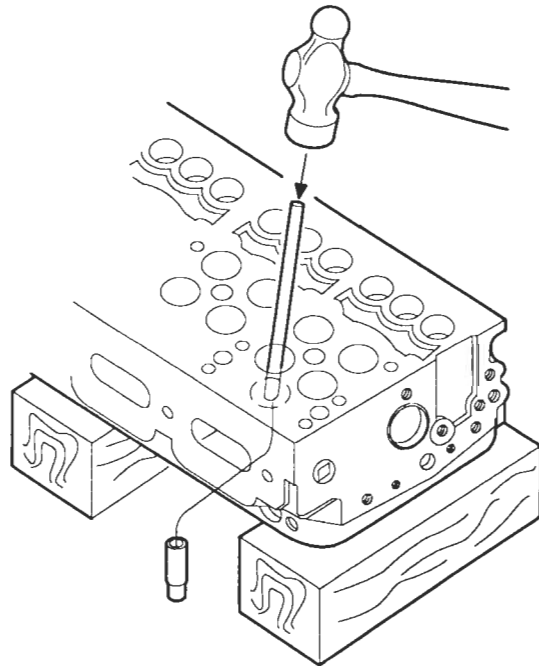

Figure 5. Removing Exhaust Valve Guide
3. Drive the valve guide out of the cylinder head with valve guide remover J 267 (two-valve head) or J 6569 (four-valve head) – (Figure 5.)